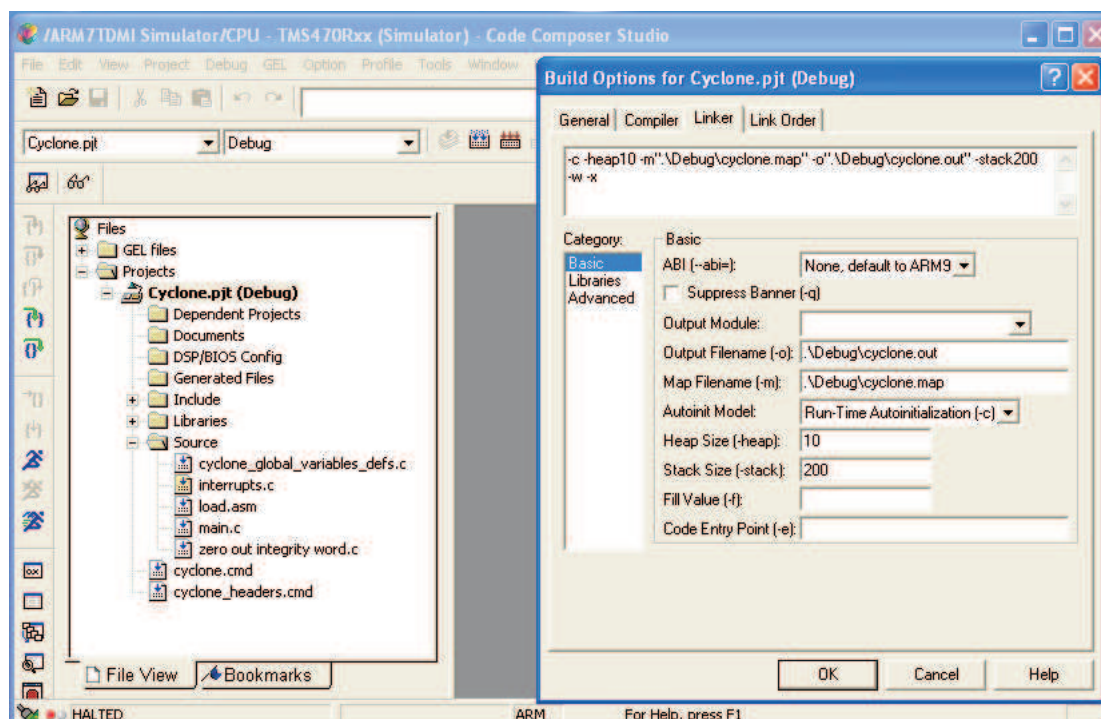

Figure 16. Open a Project File with Example of *Cyclone.pjt* – Build Options and Linker Tab
3. From CCS project window, Right click on *Cyclone.pjt (Debug)* and then select *Build Options*. The window shown in Figure 16 appears when the *Linker* tab is selected.
- Figure 16 shows the project *Build Options* have been selected to create the file *Cyclone.out* from CCS.